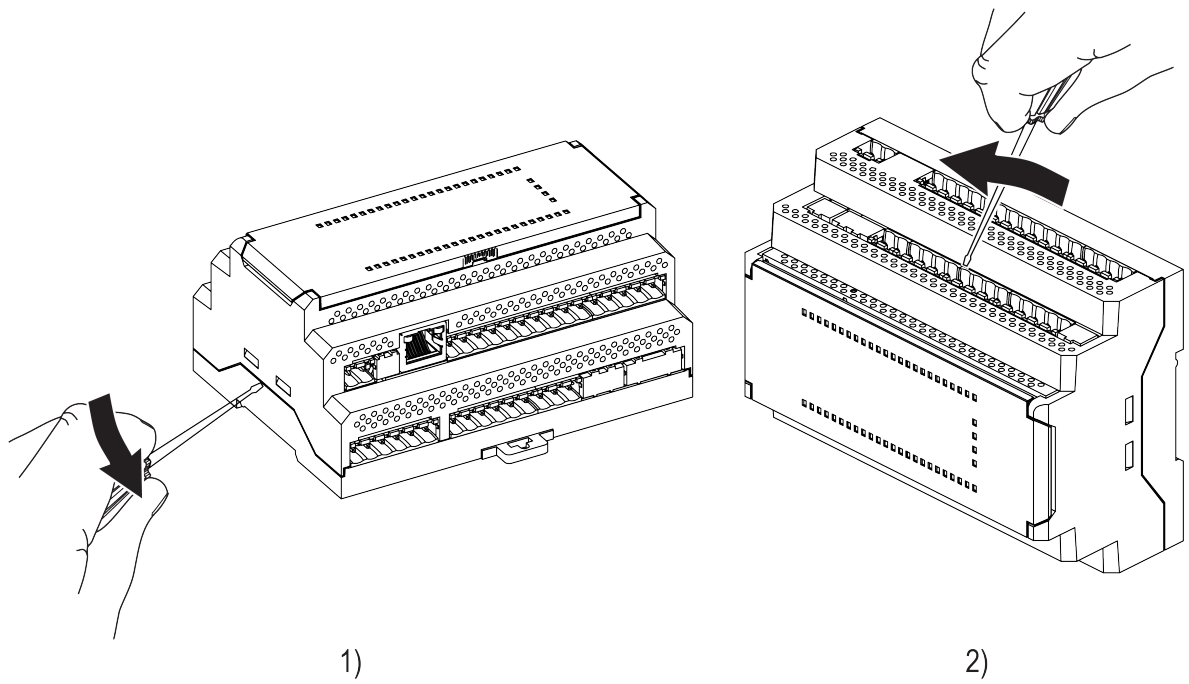

Fig. 8.2 Housing cover removal
2. On both sides of the device, unlock the housing cover. Using a screwdriver, release the locking pins from the mating apertures to unlock the housing cover (see Fig. 8.2, 1), and then slightly lift up the cover in order to hold it in the unlocked position.
3. On both sides of the device, release the housing cover from under the terminal connectors. Carefully using a screwdriver as a lever, slightly bend the edge of the upper opening away from the edge of the upper connector (see Fig. 8.2, 2) while slightly pushing the lower connector inside to release the housing cover.